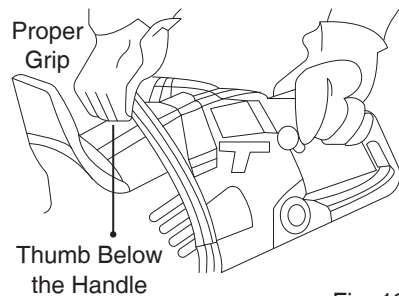

Fig. 12
- maintain a proper grip on the saw whenever the motor is running. The fingers should encircle the handle and the thumb should wrap under the handle (Fig 12). This grip is most likely to be broken by a kickback or other sudden reaction of the saw. Any grip in which the thumb and fingers are on the same side of the handle is dangerous because a slight kick of the saw can cause loss of control (Fig.13)